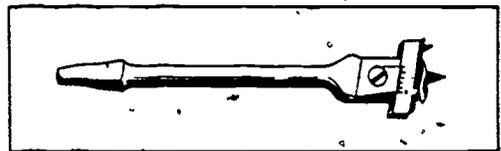

Figure 3-12. Expansion bit.
*Expansion bit.* An expansion bit, shown in figure 3-12, is also used with the brace. It is an adjustable boring tool with a movable blade that can be adjusted to cut holes from 7/8 to 3 inches in diameter. The expansion bit is sharpened in the same way as the regular auger bits.